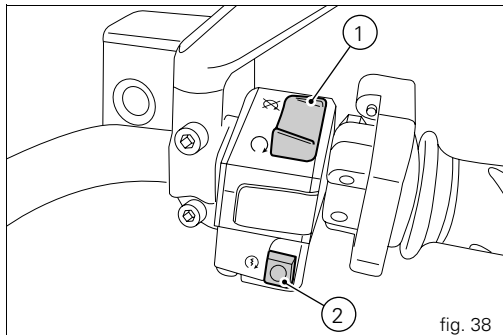

fig. 38
- 1) if the code is recognised, the protection system releases the engine lock. When you press the START (2, fig. 38) switch, the engine will start up;
Right-hand handlebar switch (fig. 38)